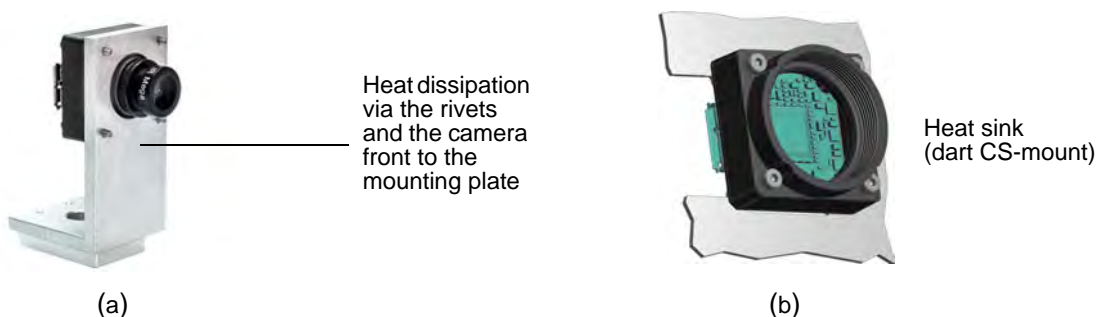

Fig. 17: Heat Sink Examples
- Figure 17 (a): The camera front touches a mounting plate. Heat dissipates via the rivets, the camera front and the mounting plate.
- Figure 17 (b): The camera rear side touches a mounting plate. Heat dissipates via the rivets and the mounting plate.